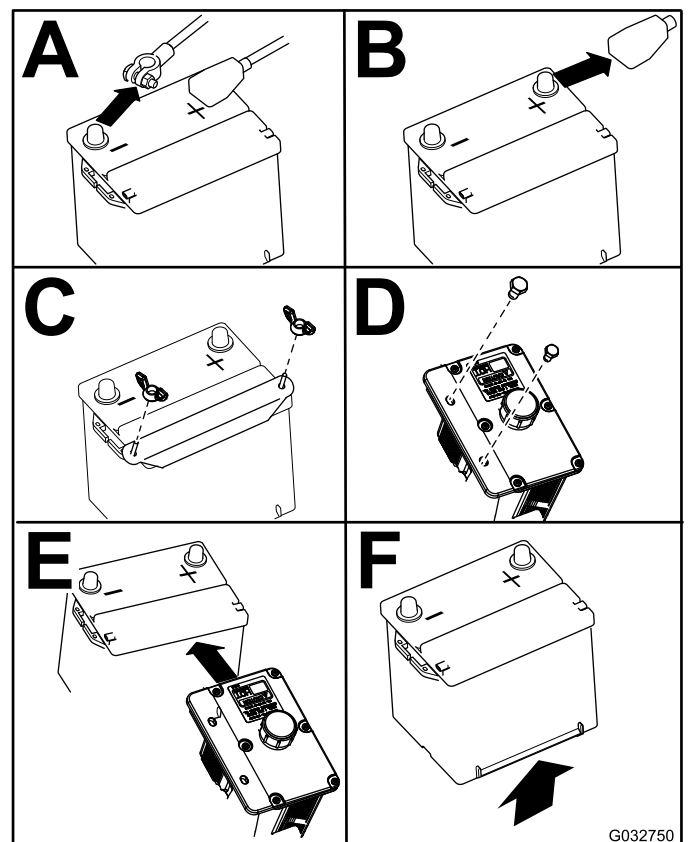

Figure 46
4. Remove the battery as shown in Figure 46.